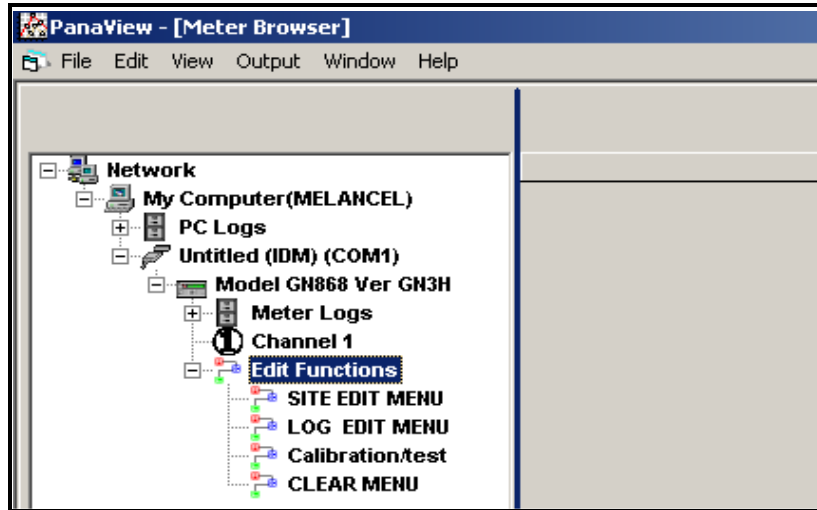

Figure 19: Meter Tree with *Edit Functions* Option
4. From the meter tree, expand the *Edit Functions* option. The window now appears similar to Figure 19 below, with a list of available menus. The menus listed are those available on the meter. (For illustration purposes, the specific menus shown are those for a one-channel GN868 flowmeter.)